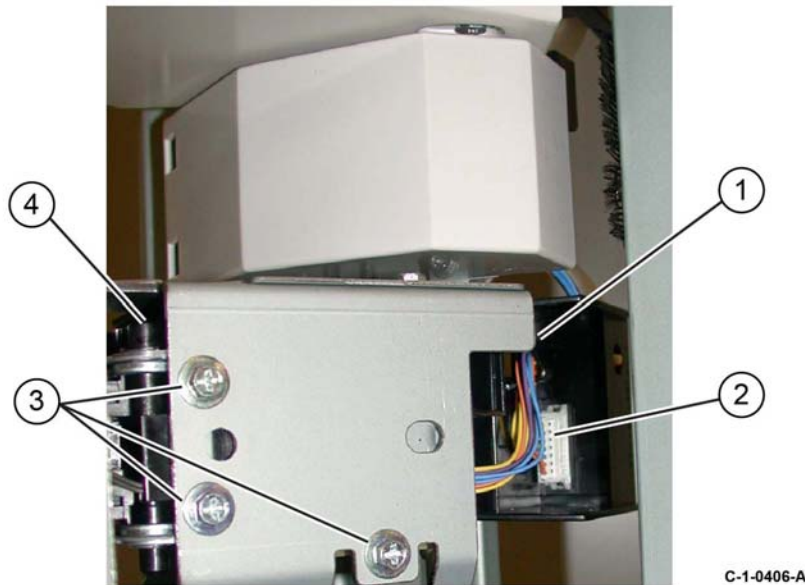

Figure 4 Stapler removal
5. Remove the stapler, Figure 4:
- a. Release the harness from the clamp (1).
- b. Disconnect the connector (2).
- c. Remove three screws (3).
- d. Remove the stapler (4).